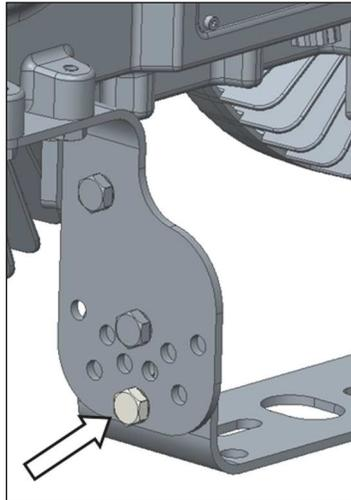

Fig.3
3. Remove the angle locking M10 bolts on both sides [Fig.3]
5. Re-install angle locking M10 hex bolts on both sides [Fig.3] suggested torque = 25 ft.lb [33.9 Nm]
2. Secure angle locking M10 hex bolts on both sides [Fig.3] suggested torque = 25 ft.lb [33.9 Nm]